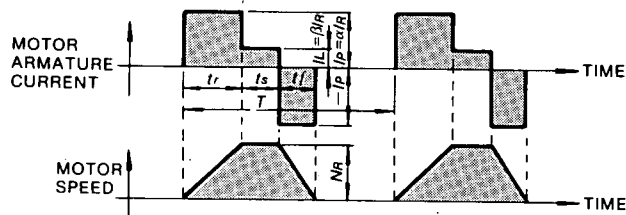

Fig. 4.3 Timing Chart of Motor Armature Current and Speed
• When the motor repeats rated-speed operation and being at standstill (Fig. 4.3).